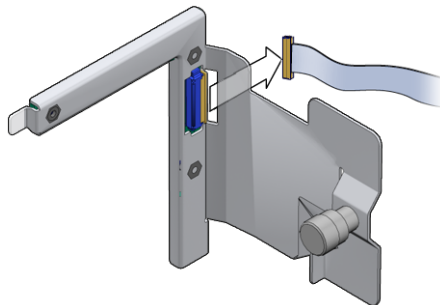

FIGURE 3-41 Disconnecting the Cable From the LED Board
6. **Disconnect the cable from the LED board (FIGURE 3-41).**